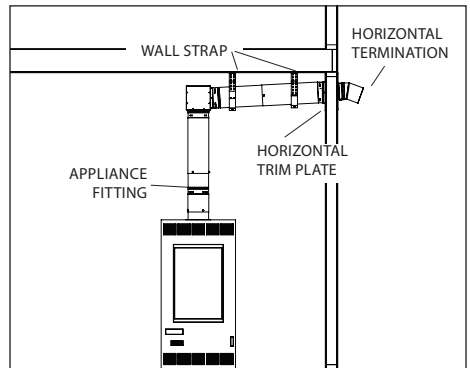

Figure 7- Double Wall Horizontal
Horizontal Wall Penetration (Fig.7, 8, 9)
- Terminate the vent system Horizontally (Fig.7). Follow the installation instructions included with PolyPro for details. The internal wall surface will use a concentric wall plate for connection to the metal outer pipe.